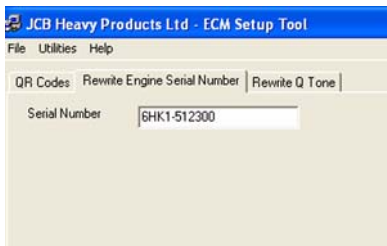

Fig 13.
- b Engine Serial Number. → Fig 13. (C-127).